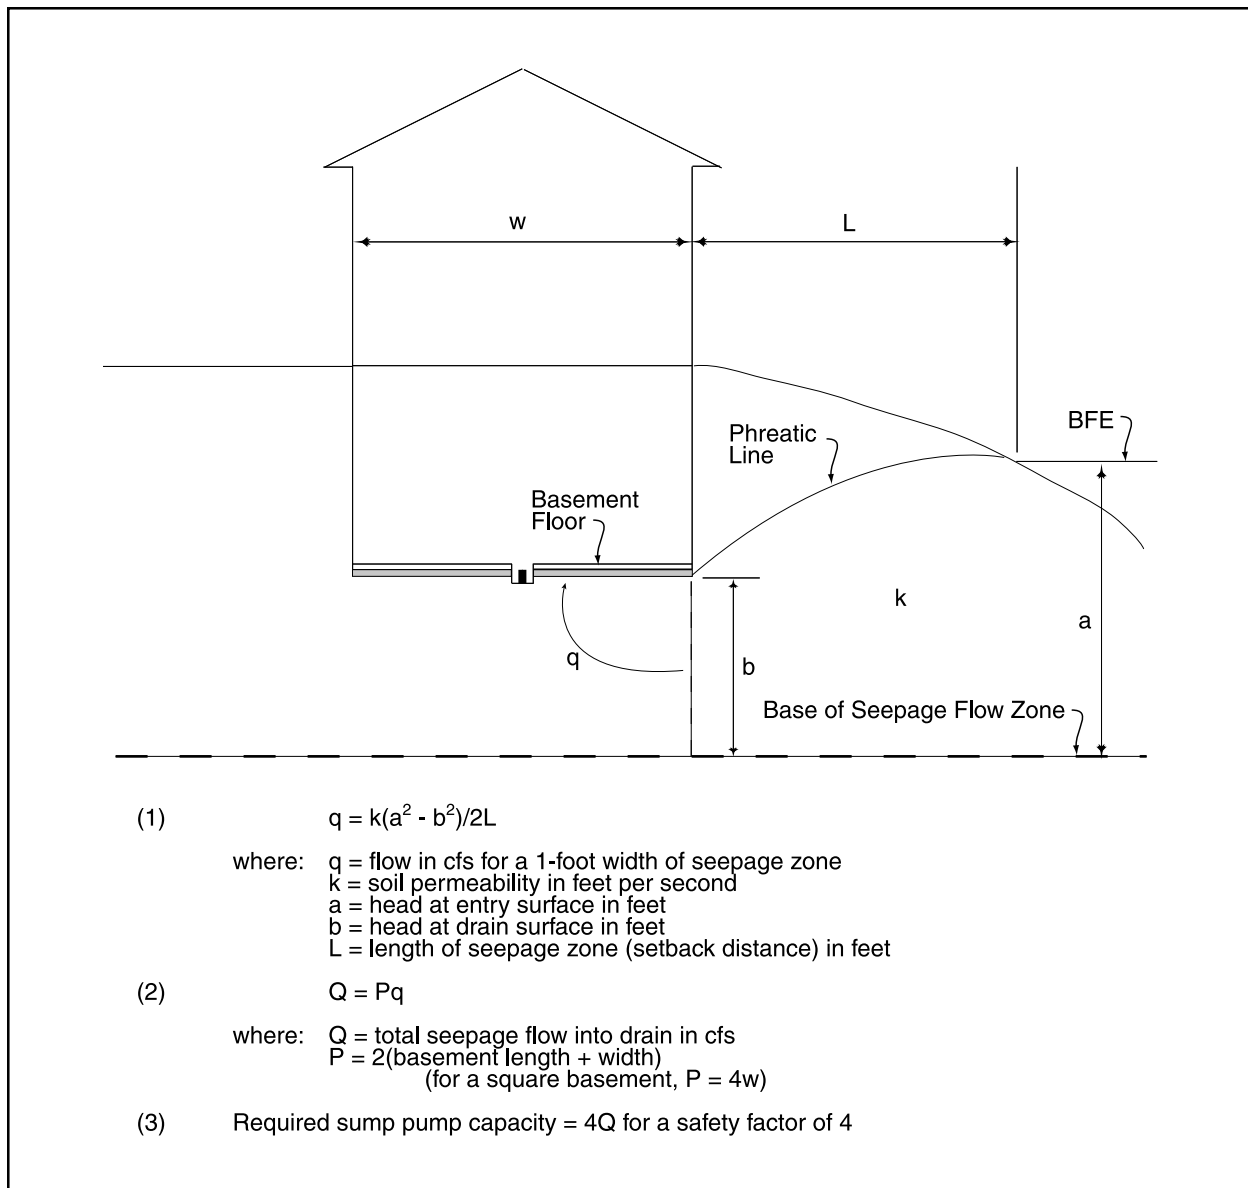

Figure 11 Method for calculation of seepage flow.
- ? The effective elevation of the base of the seepage flow zone can be defined (see Figure 11). This elevation is needed to permit calculation of the quantity of seepage flow. If the base elevation is not known, its depth below the base of the floor slab can be conservatively approximated as one-half of the building width most nearly perpendicular to the shoreline of the flood water. This would approximate the boundary effects of the three-dimensional seepage flow, in that it would represent the flow coming in from all sides and meeting in the center beneath the floor slab. This approach assumes a constant soil type and density over the flow zone. If the site has stratified soil layers, the engineered basement option should be used (see page 19 of this bulletin).
- ? The quantity of seepage flow can be calculated by a simplified method based on Dupuit’s assumption that equipotential lines are vertical. (The Dupuit method uses Darcy’s law with specific physical characteristics. A more detailed description can be found in the first two references listed under “Further Information,” on page 23 of this bulletin.) The elements of the method are presented in Figure 11. The entry surface, with hydraulic head “a,” is a vertical line extending downward from the edge of the flood surface. The exit surface, with hydraulic head “b,” is a vertical line extending downward from the side of the structure closest to the flood water’s edge. The length of the flow path, “L,” is the setback distance. Flow is assumed to be horizontal, and the horizontal coefficient of permeability is the effective permeability. For simplicity, the small inclined entry zone at the river bank and the exit zone below the basement floor are ignored. This is a reasonably conservative measure. The phreatic line, or the line below which the seepage flow occurs under positive pressure, extends from the edge of the flood water to the elevation of the bottom of the basement floor slab. If the exit zone below the basement floor were included, the hydraulic head at “b” would be higher. As shown in Figure 11, the phreatic line is not a straight line, but within the limits of the assumed boundary values, it is close to a straight line.
- Analysis of seepage quantity. The analysis can be made by the conservative simplified method described in Item 5 in the section titled Technical Background for the Simplified Approach (illustrated in Figure 11), or by the construction of a flow net that takes into account all of the boundary conditions more rigorously. A flow net may be required to permit analysis of uplift pressures. Uplift pressures may be more significant in laminated or stratified soil deposits.